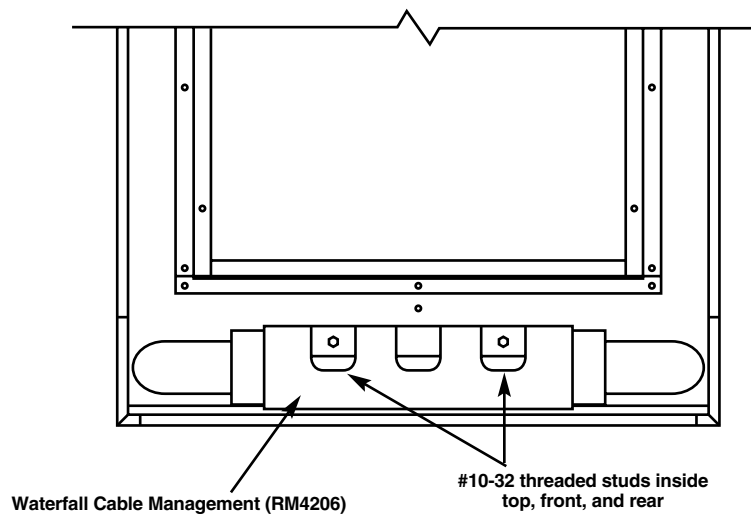

Figure 3-4. The enclosure's top.
2. Pass the two slots in the Waterfall Cable Management over the two short studs in the enclosure's top. See Figure 3-4.